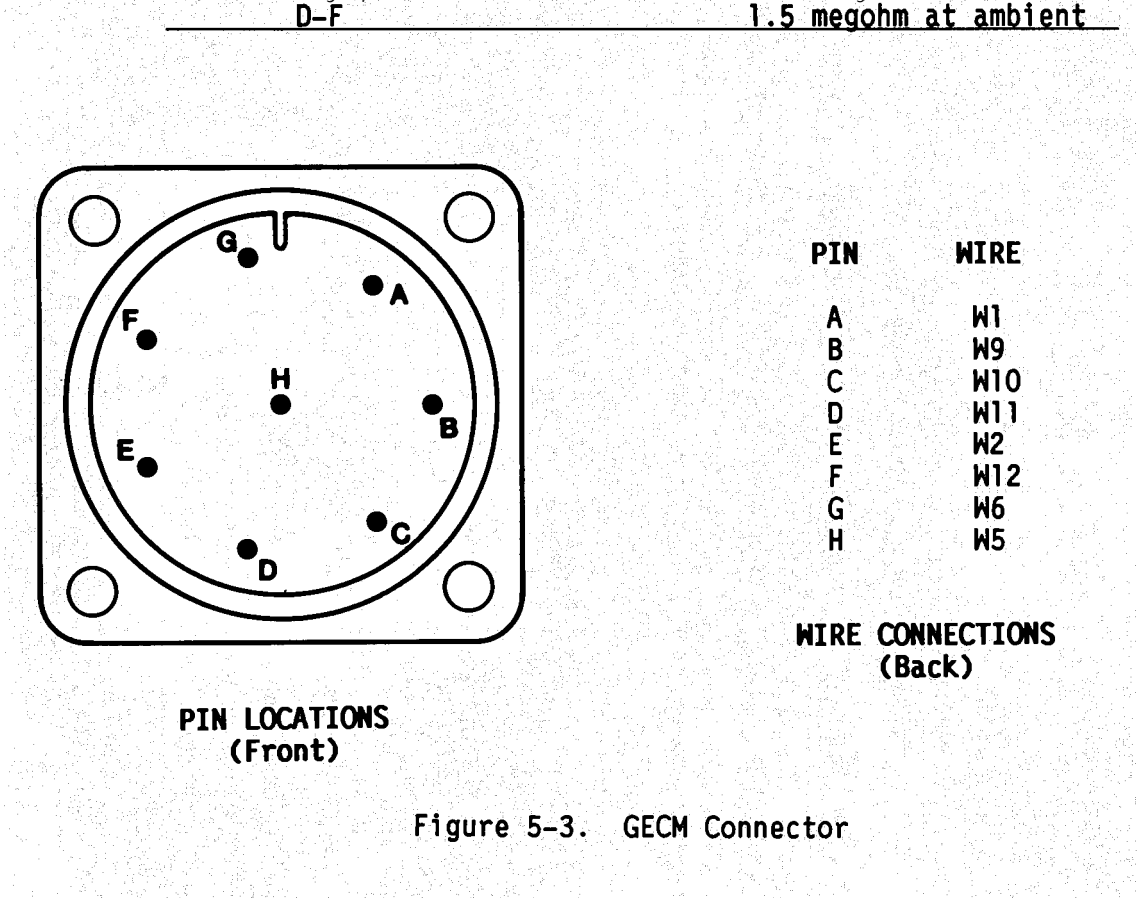

Figure 5-3. GECM Connector
(6) Using a multimeter set on R1, check resistance on GECM connector (figure 5-3) in accordance with table 5-1.
(7) If any reading is incorrect, replace generator (paragraph 2-6).
(8) Connect cables to positive and negative output connectors and to GECM connector.
(9) Connect battery cable plug connector to battery.
(10) Install engine housing access cover and secure with turnlock fasteners.